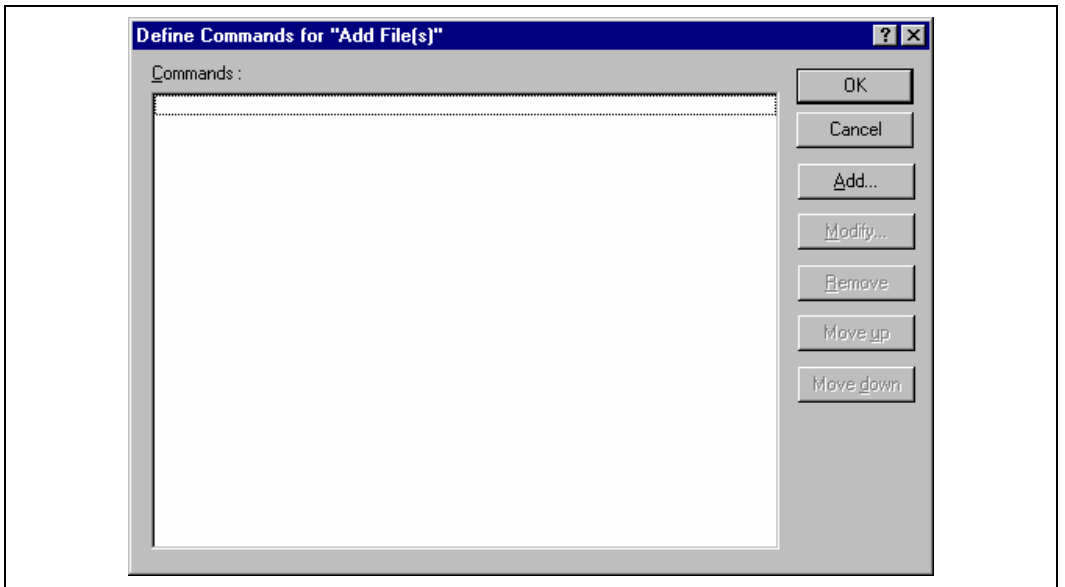
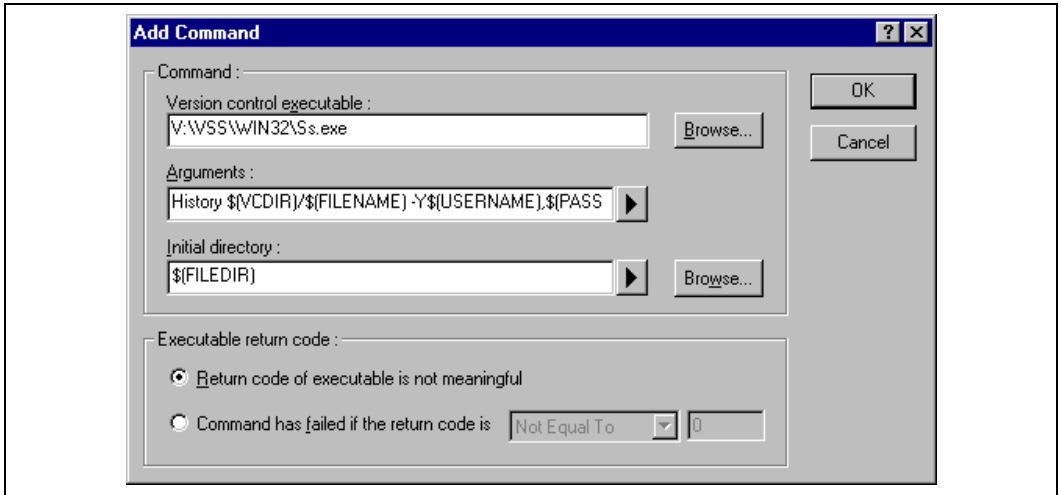

Figure 8.3: Modify System Menu Option (Example)
Figure 8.5: Add/Modify Command Dialog
2. Select the option to be modified from the “System menu options and toolbar buttons” list and then click the “Modify...” button. The dialog shown in figure 8.3 will be displayed. This figure shows a dialog when “Add File(s)” has been selected for example.
Commands are defined when the “Add...” or “Modify...” buttons are clicked on the dialogs shown in figure 8.3 and figure 7.4. In either case, the dialog shown in figure 8.5 is invoked.